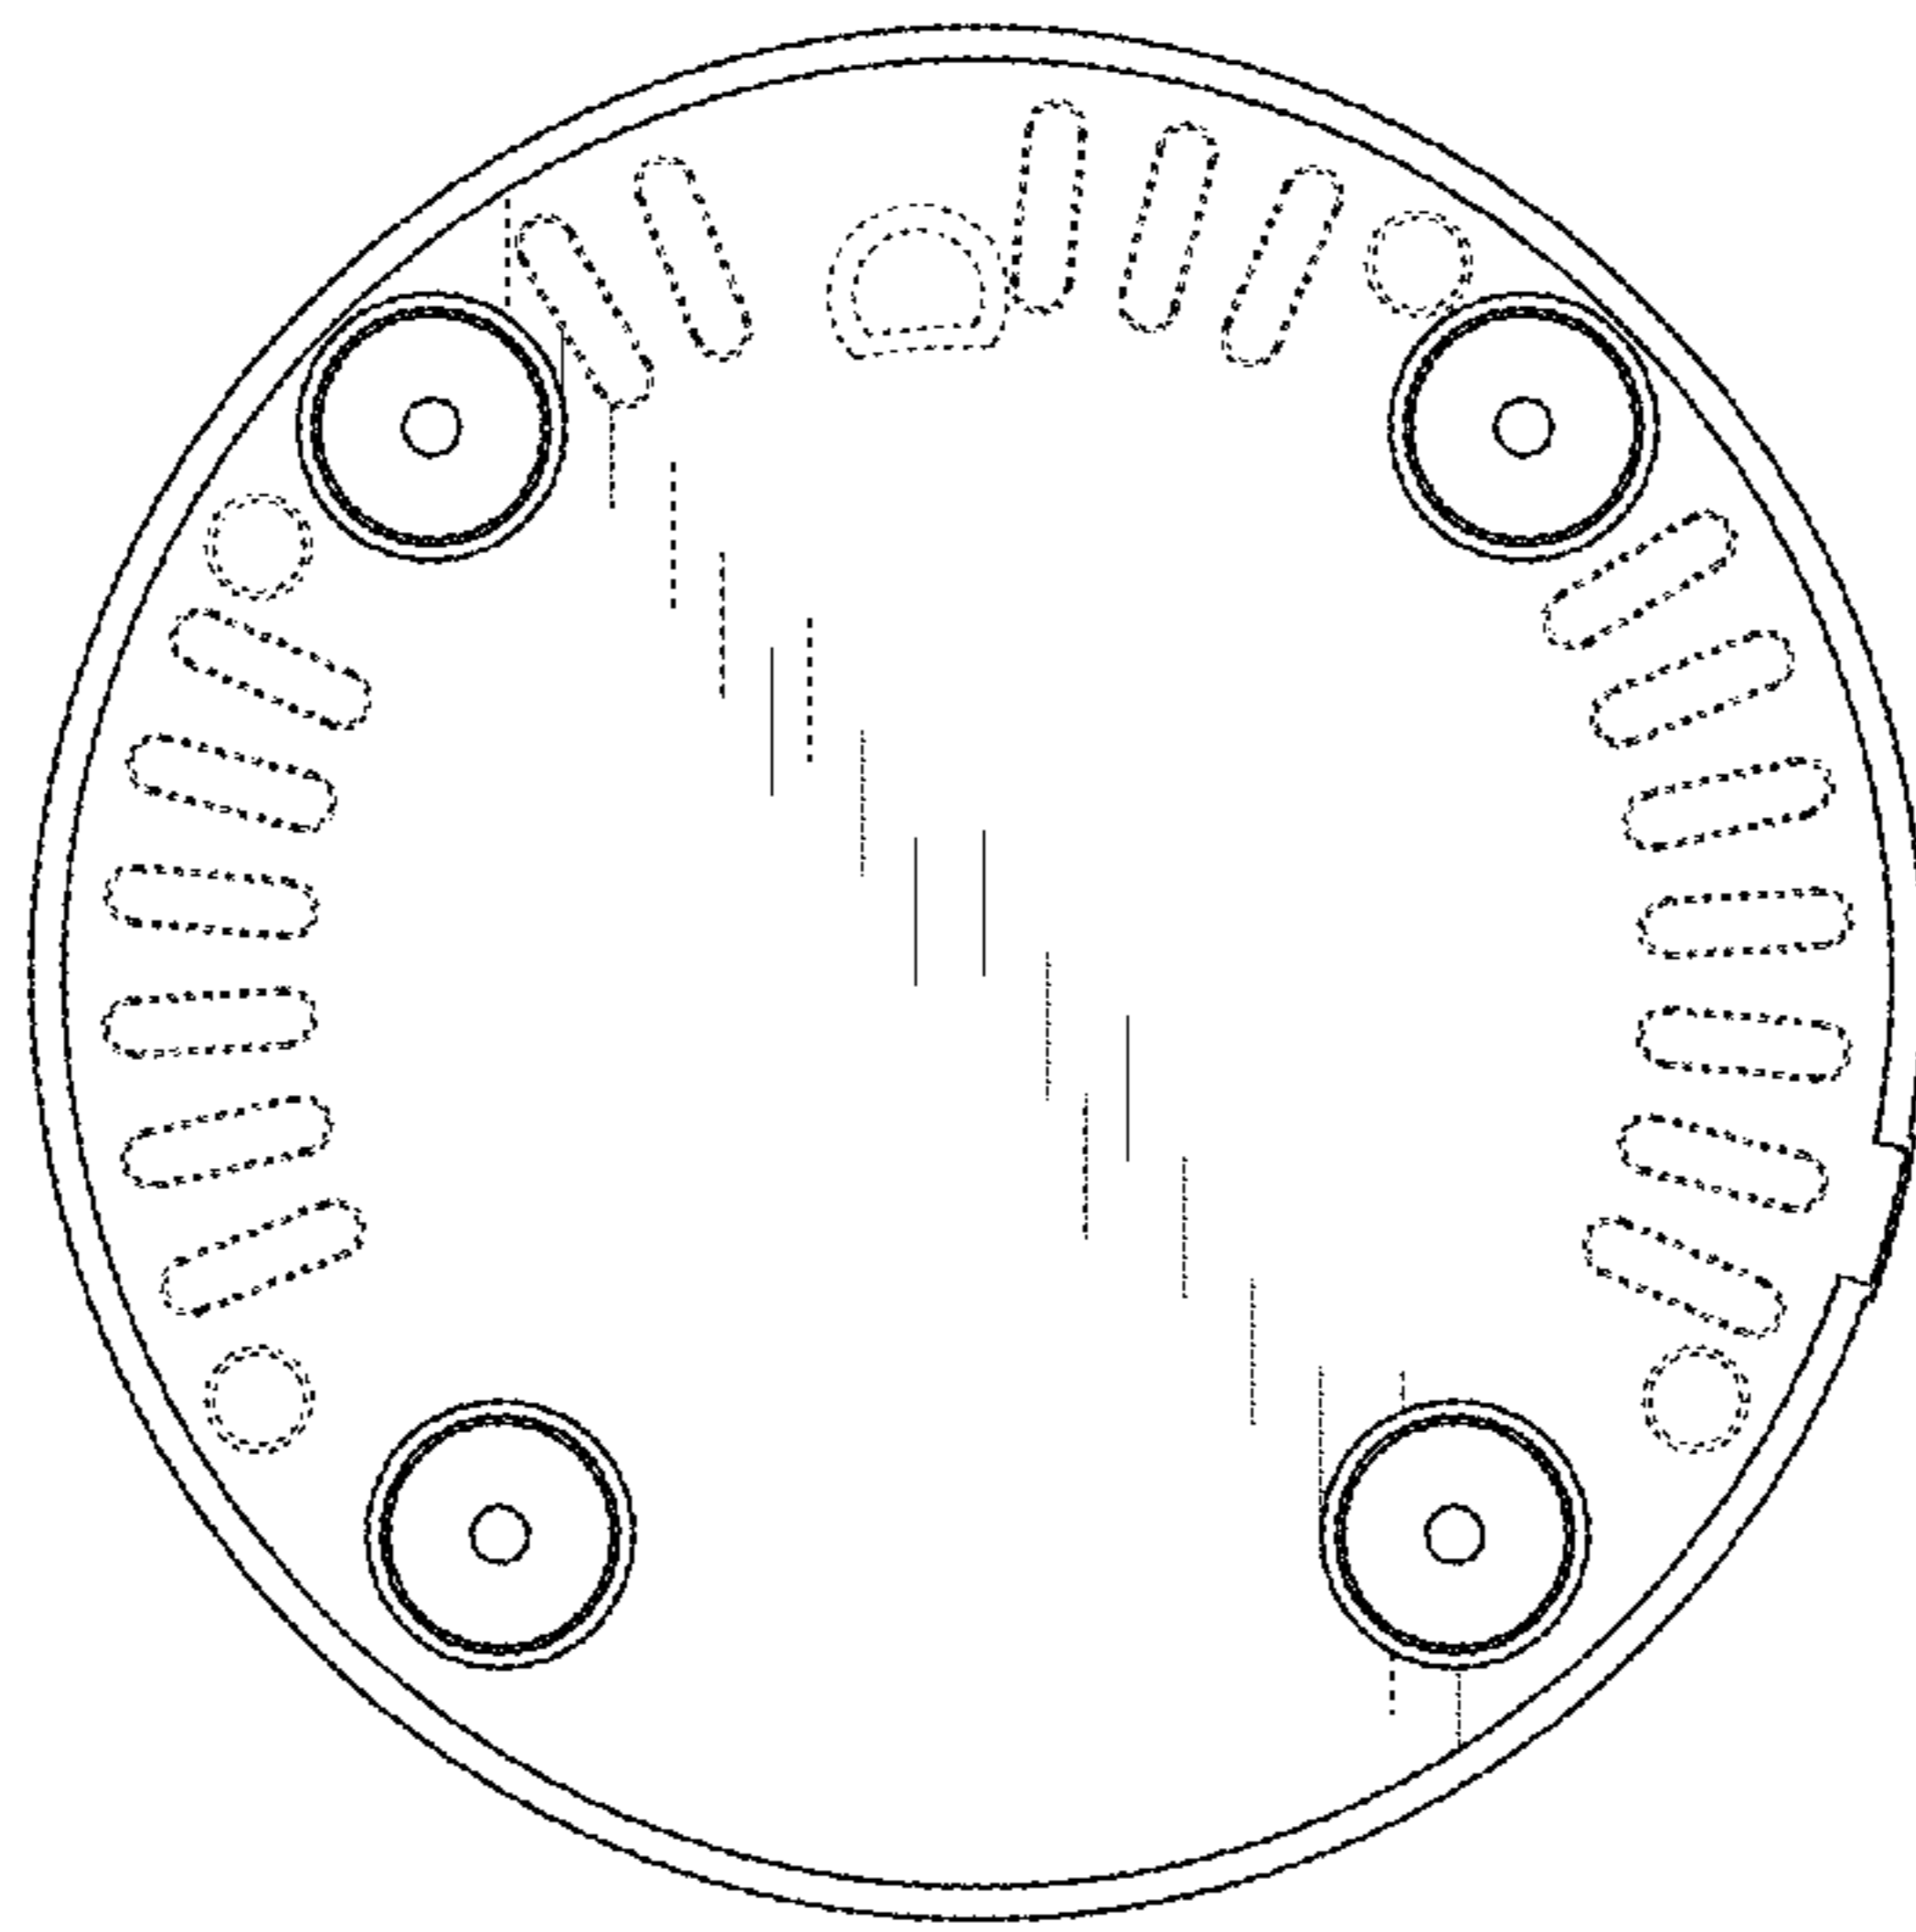

FIG. 6
- FIG. 6 is a bottom view thereof.
The personal blender assembly includes a base, a blender cup and a blender connector connecting the base and the blender cup. The blender cup can be detached from the blender connector and used as a cup directly. In FIGS. 9-13 and 15-24, the blender cup has a transparent chamber. The broken line portions of FIGS. 6, 8, 14 and 16 are included to show unclaimed subject matters only and form no part of the claimed design.